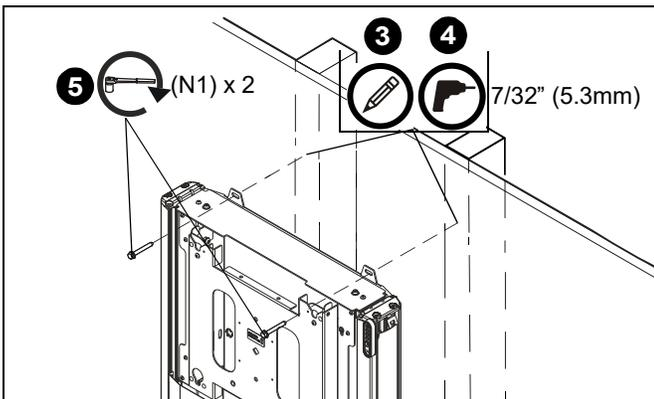

Figure 13
2. Place column assembly against wall making sure to line up attachment brackets with studs. (See Figure 13)
3. Mark hole locations at each mounting location. (See Figure 13)
4. Drill two 7/32" holes at marked hole locations. (See Figure 13)
5. Install two 5/16 x 2 1/2" hex head cap screws (N1) through holes on attachment brackets and into drilled holes on wall. (See Figure 13)